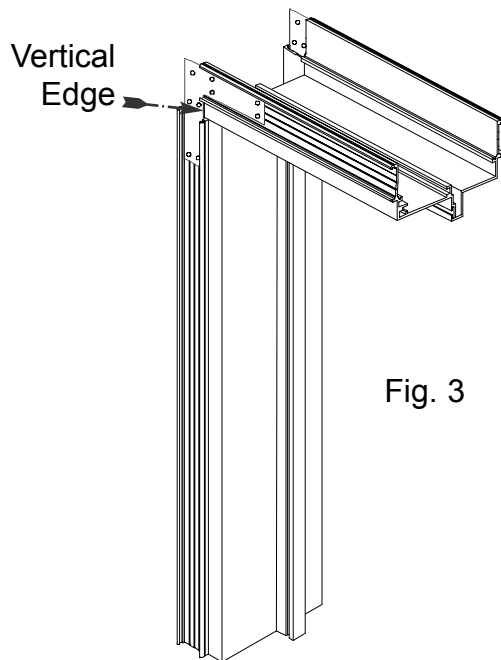

Fig. 3
- a.) If doors are not premortised, then use a square to attain a 90° corner between head & jambs. Head must butt up to vertical edge of clip (Fig. 3) and set flat in alignment groove (Fig. 4). You can then attach clips with #8 x 3/4" Tek screws.
9. Pull header down to door, allowing 1/8" spacing. Install corner clips (Fig. 3 & 4) and secure to wall.